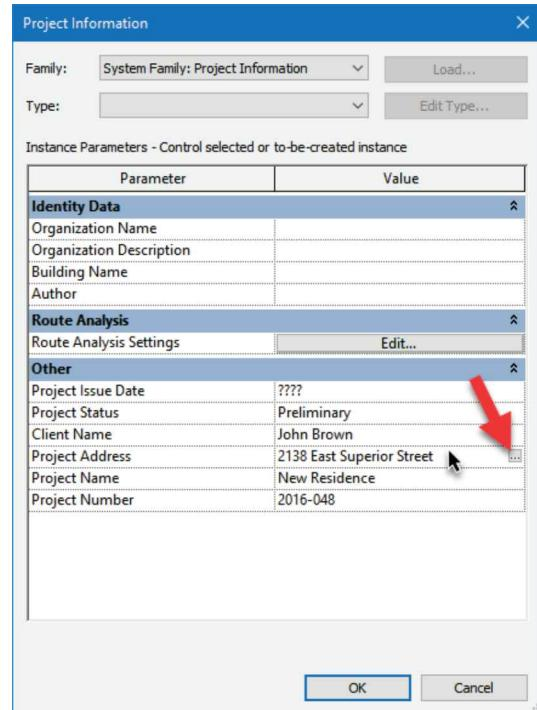

FIGURE 5-1.5 Project Information dialog
9. Enter the *Project Information* shown in Figure 5-1.5.
10. Click in the field next to the *Project Address* parameter and then click the small icon that appears to the right (Figure 5-1.5).